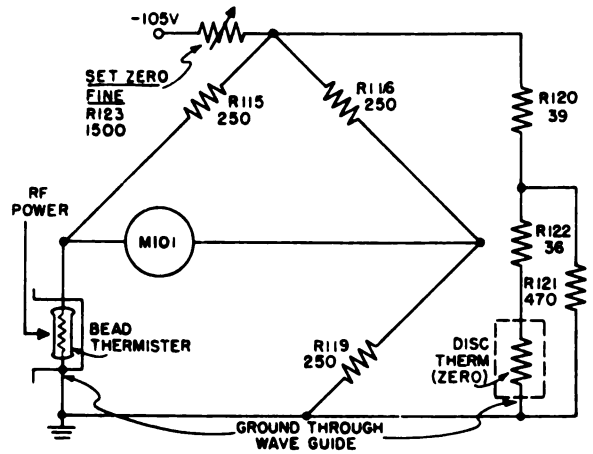

Figure 2-27. Thermistor Bridge Circuit Showing Voltage Compensation
(See figure 2-27.)
(6) HIGH SENSITIVITY. — The thermistor bridge is used as the frequency meter indicator as explained in par. 2c(2). When measuring the frequency of short RF pulses, however, the meter deflection is not sufficient to give a good indication. Therefore, a momentary switch (S103) is provided that eliminates the sensitivity compensation and thus increases the meter deflection by about 4 times. The circuit for this position of S103 (HIGH SENS) is as shown in figure 2-27. S103 is a momentary switch to